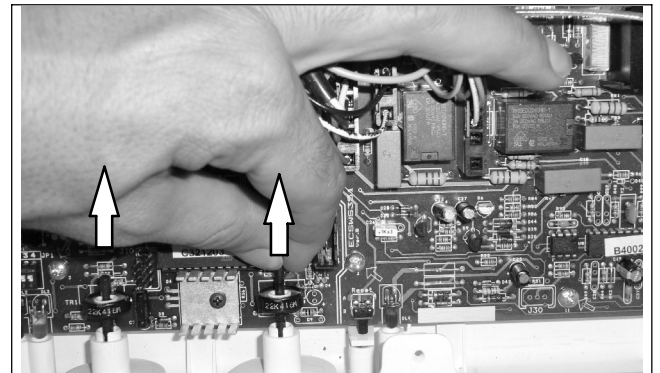

Fig. 28
- 3 Remove the spindles of the c.h. and d.h.w. temperature adjustment knobs by delicately pulling them with pliers in the direction shown by the arrow in Fig. 28.